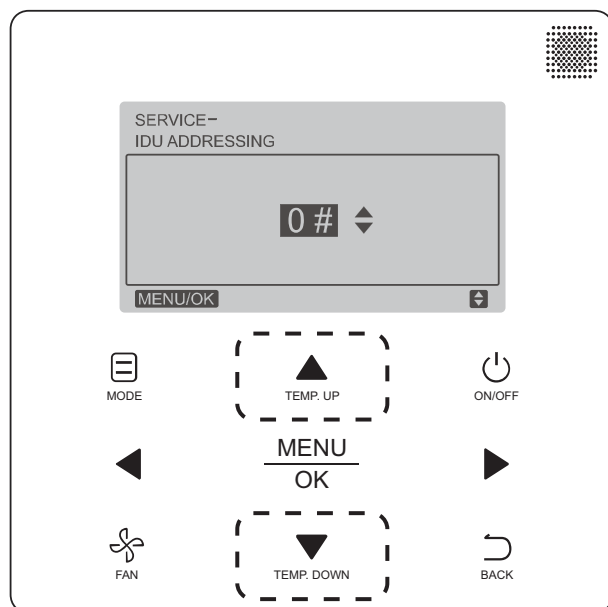

Fig. 19 —Programmable Controller Setting IDU Address
- Press **TEMP. UP** or **TEMP. DOWN** to choose the address you want to set as shown in Fig. 19. Press **MENU/OK** to send this address to the IDU.